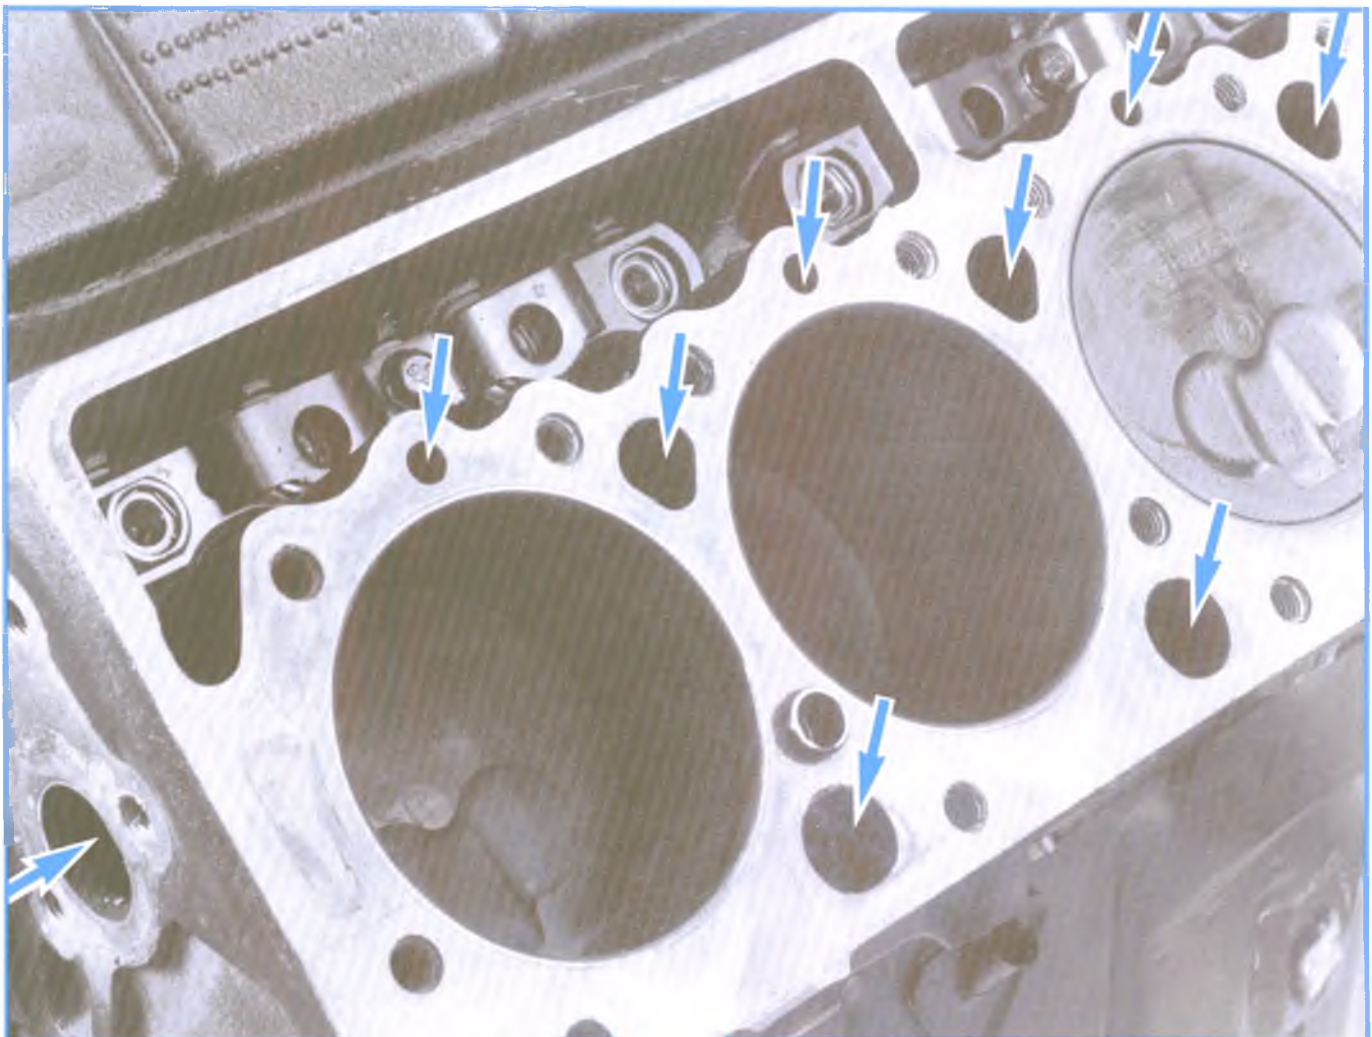

Figure 4-15, Coolant Passage Inspection
6. Check the cylinder case and head passages in the following steps (see Figure 4-15):